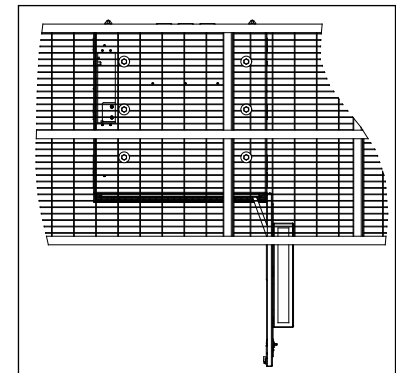

Figure 8 Installing on a Platform
8. To secure the CUBE to a steel grate platform, install 1/2" corrosion-resistant Grade 5 steel hardware through the cabinet and platform grate. Ensure that the bolts are long enough to extend past the nut on the bottom side of the platform grate. For all mounting applications, each bolted joint should have a minimum Ø1 inch fender washer on the inside of the cabinet (and underside of the platform grate for platform mounting) with a lock washer. The washer on the underside of the platform must be large enough to cover both adjacent bearing bars as shown in Figure 8.
8. Connect the battery cables to the appropriate terminals. See Figures 8 and 9.